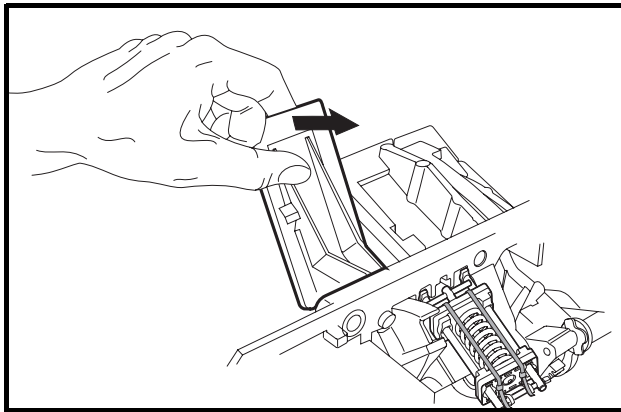

Figure 5-7 Accelerator Spring Pin Removal
6. Press the accelerator pedal forward to relieve the spring tension of the assembly, then cut the two wire ties (**Figure 5-7, Page 5-6**)